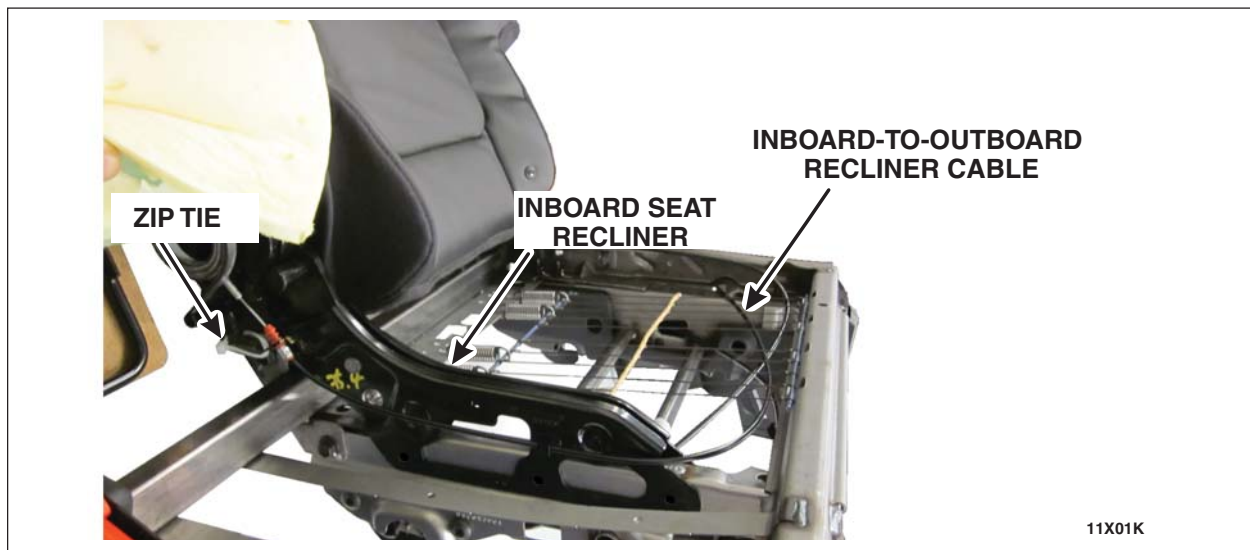

FIGURE 15
36. Install the *new* inboard seat recliner onto the seat assembly. Route the inboard-to-outboard seat recliner cable to the outboard seat recliner. See Figure 15.
45. Cut the zip tie that is on the **new** inboard recliner. See Figure 15.